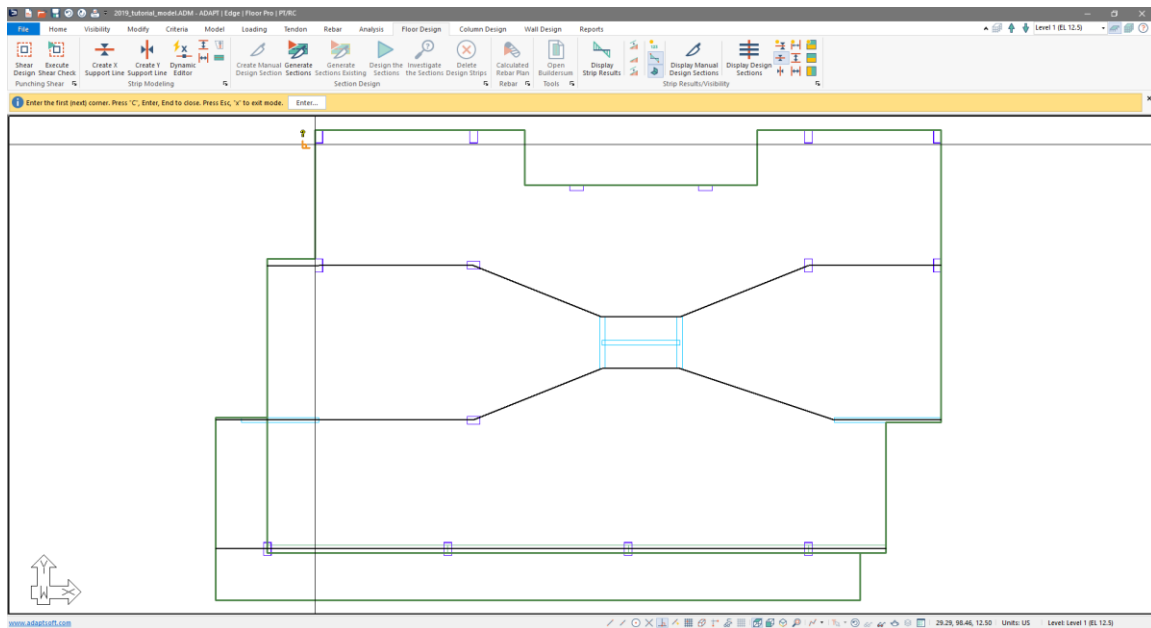

Figure 9-13
- Click on the *Top View*  icon in the **Bottom Quick Access Toolbar**. This will bring you to the view of the model shown in **FIGURE 9-13**. As you can see, we now have two support lines modeled.
- Hover your mouse over the left slab edge to the left of the upper-left most column as shown in **FIGURE 9-13**.